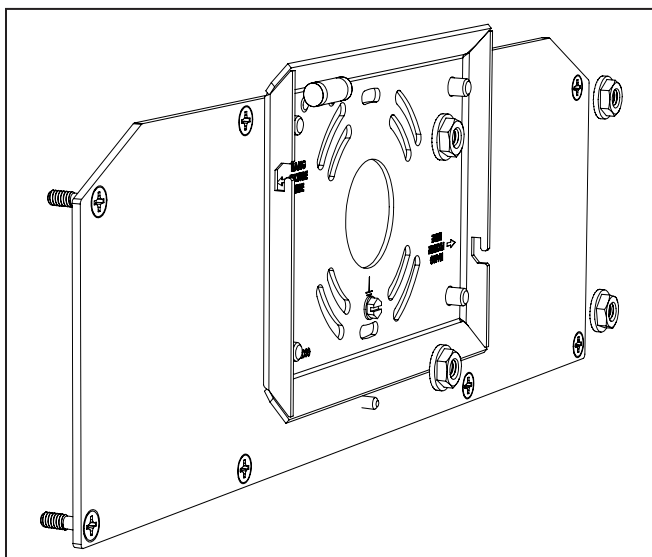

Figure 13.
2. Attach the wedge plate to the front cover plate using the 4 carriage bolts (Figure 13). Torque carriage bolts to 50 in-lbs.